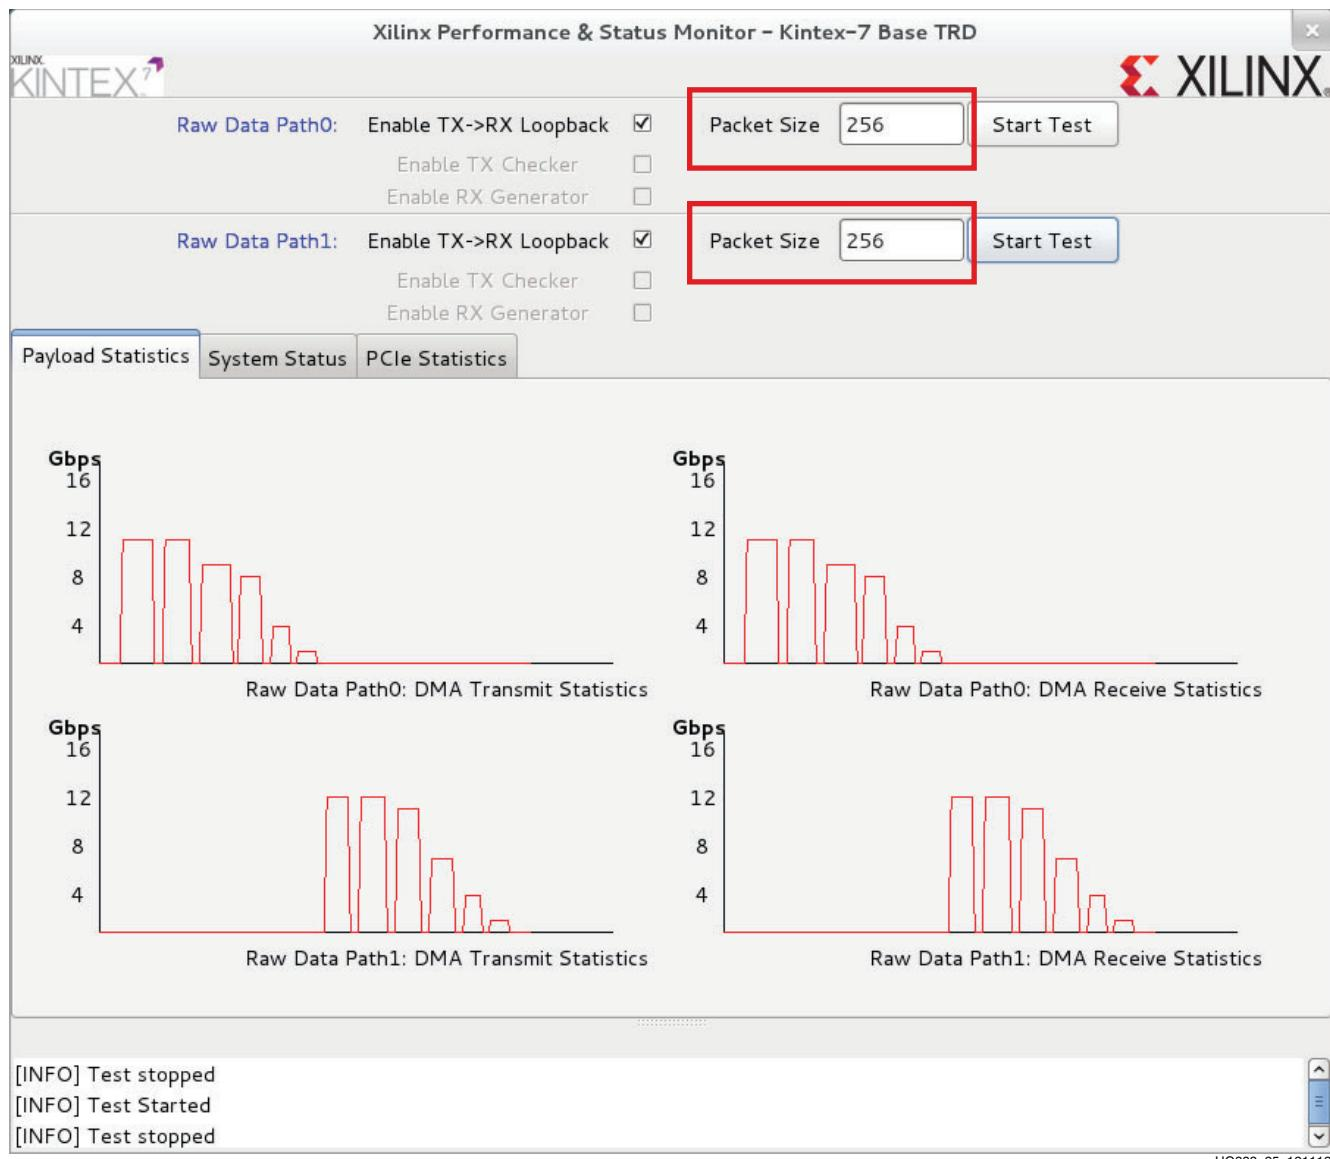

Figure 25: Effect of Varying Packet Sizes on Performance
- d. Vary the Packet Size parameters for the Raw Data Paths (see Figure 25) and click **Start Test**. Then view the payload statistics to review data transfer rate on the DMA channels. With a decrease in packet size, the performance drops.